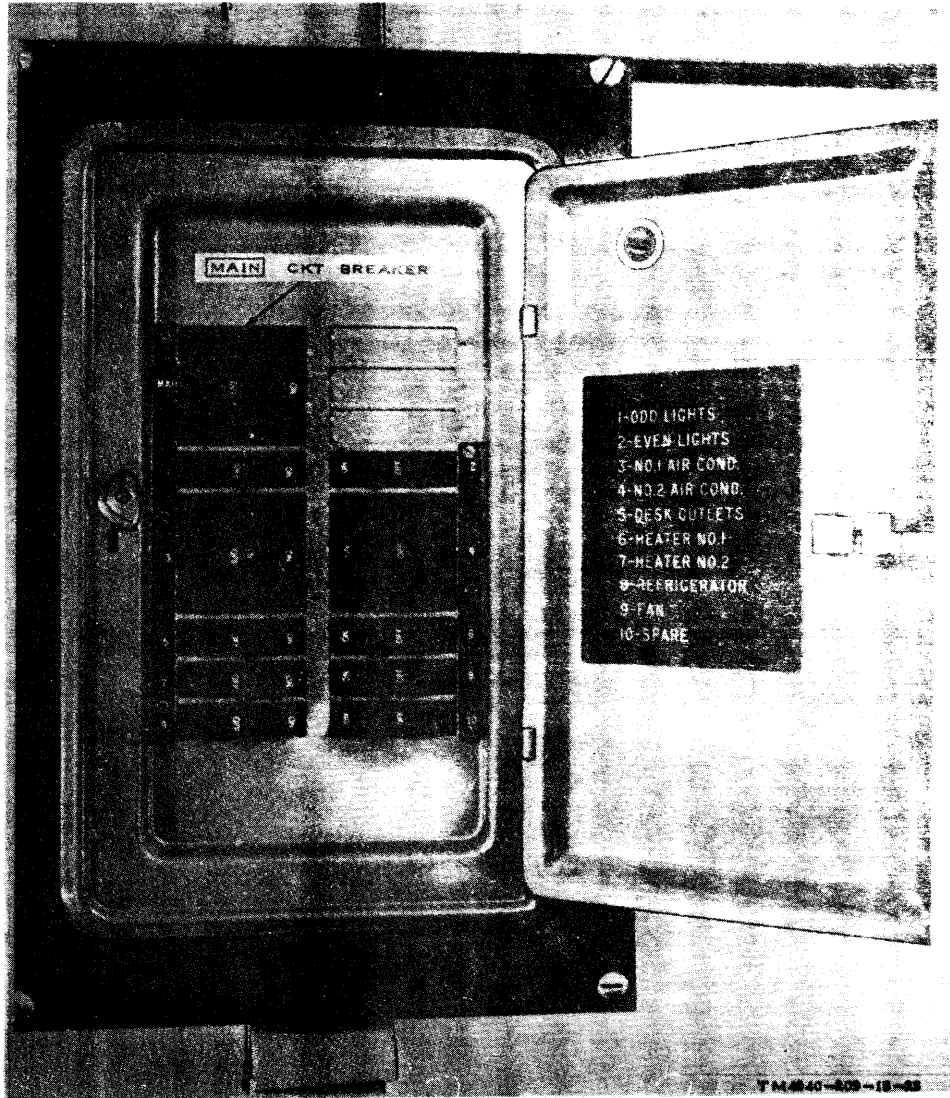

Figure 2-5. Storage van, configuration A, power distribution panel.
- (2) Check to be sure that the MAIN circuit breaker on the storage van power distribution panel is operated to OFF (figs. 2-5 and 2-6).
- (3) Connect the other end of the power cable to the 120/208 60~ 30 A. C. POWER IN receptacle in the power entrance box of the storage van.